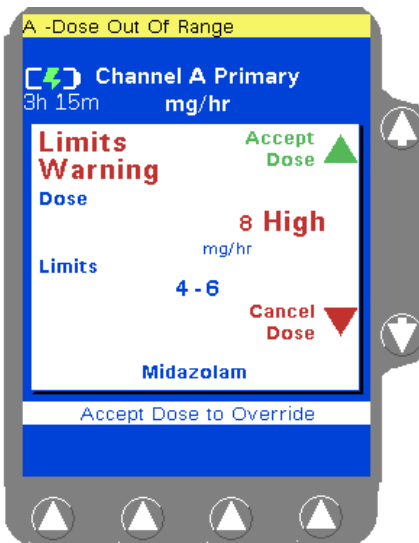

Figure 2-11 COLLEAGUE GUARDIAN Limits Warning Pop-up Example
- Labels selected from the COLLEAGUE GUARDIAN list have predefined program limits. If the clinician chooses to change the program so that the predefined limits are overridden, a warning is displayed. The warning pop-up includes the programmed dose and the preprogrammed dose limits. The clinician can choose to cancel the dose and reprogram within the limits, or accept the dose and override the limits. See Figure 2-11 for an example of the Limits Warning pop-up.